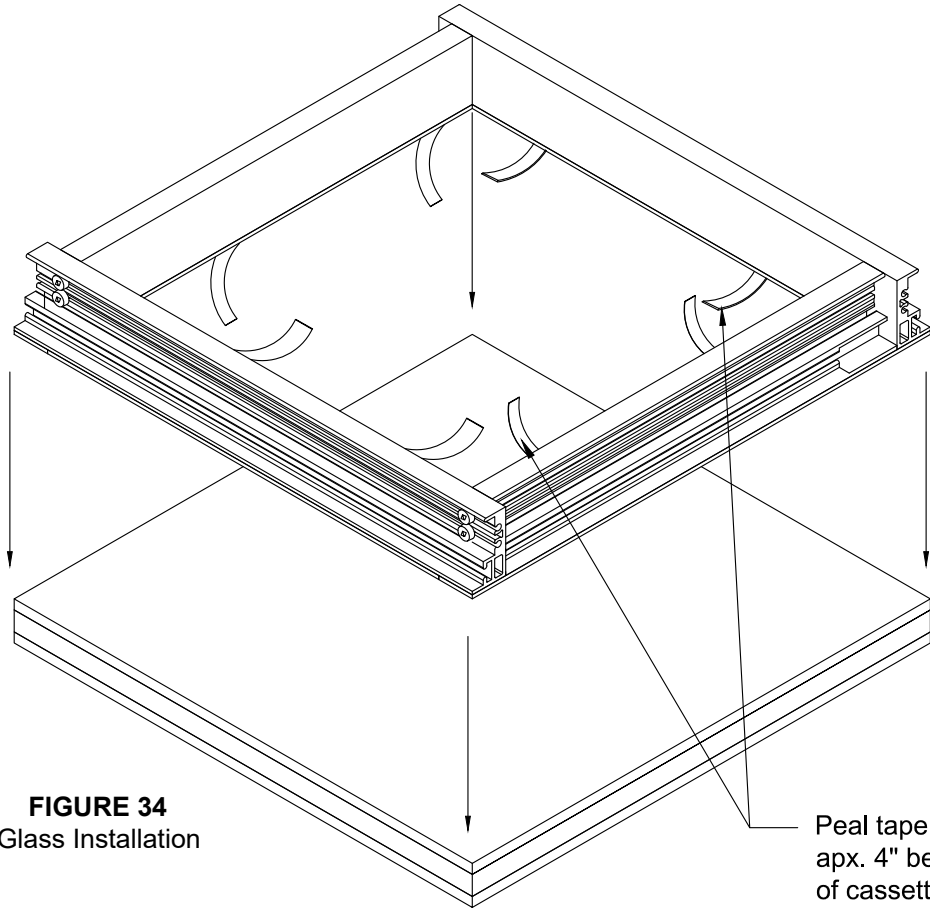

FIGURE 34
- 3.9 Remove approximately 4" of protective liner at each corner from the cassette unit. Take care not to touch or contaminate the exposed adhesive. See FIGURE 34